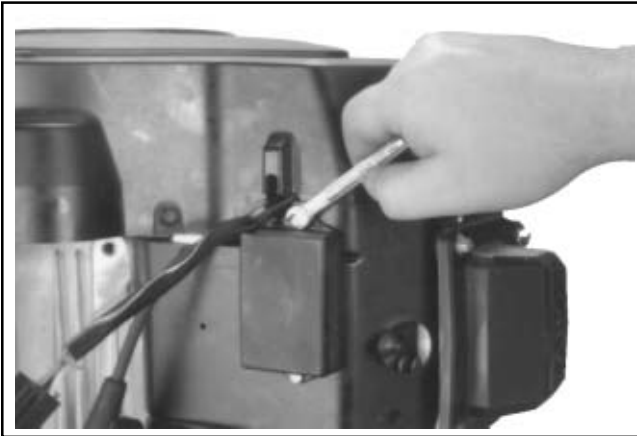

Figure 9-21. Loosening Spark Advance Module (Applicable Models).
2. The rectifier-regulator does not have to be detached from the blower housing. If the engine is equipped with SMART-SPARK[™], remove the mounting screws from the spark advance module (SAM). See Figure 9-21. The module will hang loose as part of the wiring harness.